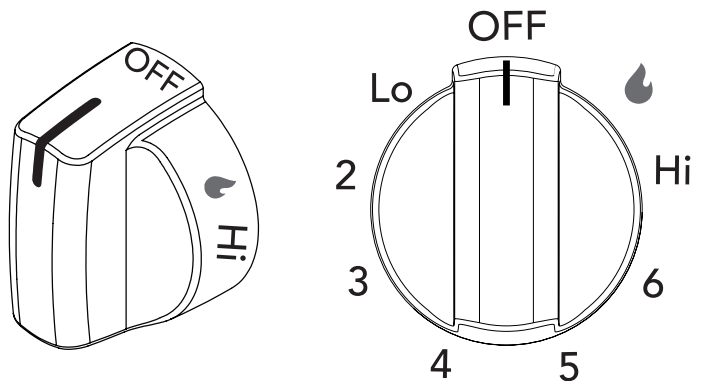

Figure 6: Surface control knob
2. Push the burner's surface control knob in and turn counterclockwise out of the OFF position (Figure 6).